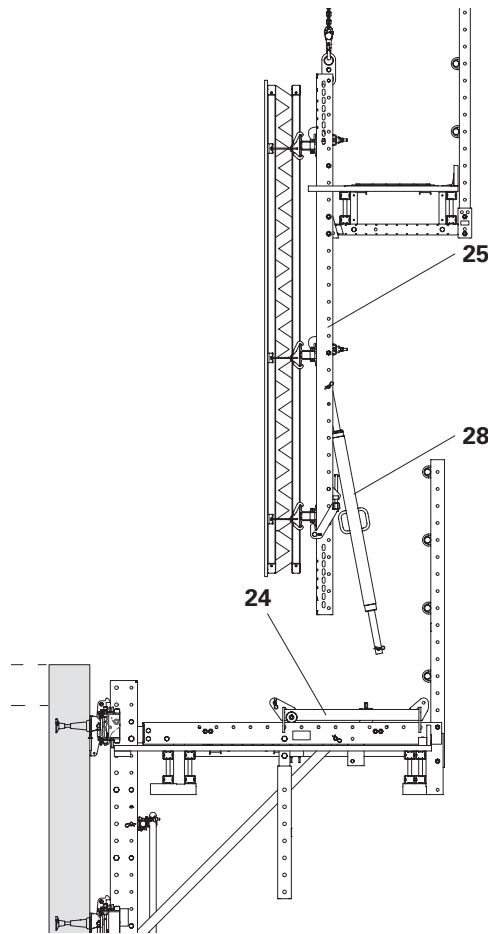

Fig. C3.04
1. Fit a formwork spindle (28) onto the strongback (25) with a filler pin and cotter pin. The installation position must be determined on a project-specific basis.
2. Attach pre-assembled formwork elements to the strongback (25).
3. Set up the formwork and move it to the bracket unit. (Fig. C3.04)